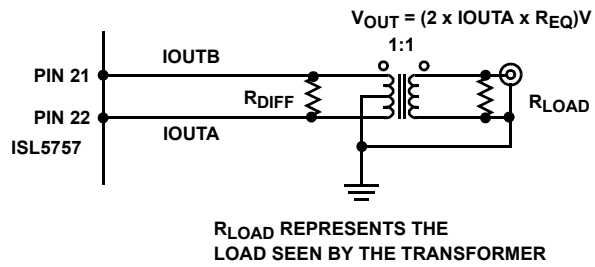
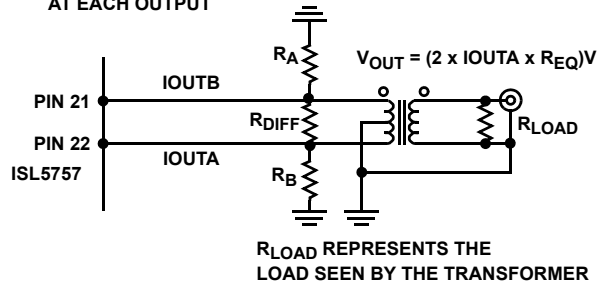

FIGURE 13. OUTPUT LOADING FOR DATASHEET MEASUREMENTS
FIGURE 14. ALTERNATIVE OUTPUT LOADING
# Typical Performance (+3.3V Supply, Using Figure 13 with $R_{DIFF} = 100\Omega$ and $R_{LOAD} = 50\Omega$ )
**Typical Performance** (+3.3V Supply, Using Figure 13 with  $R_{DIFF} = 100\Omega$  and  $R_{LOAD} = 50\Omega$ ) (Continued)
IOUTA and IOUTB can be used in a differential-to-single-ended arrangement to achieve better harmonic rejection. With RDIFF = 50Ω and RLOAD = 50Ω, the circuit in Figure 13 will provide a 500mV (-2.5dBm) signal at the output of the transformer if the full scale output current of the DAC is set to 20mA (used for the electrical specifications table). Values of RDIFF = 100Ω and RLOAD = 50Ω were used for the typical performance curves. The center tap in Figure 13 must be grounded.
In the circuit in Figure 14, the user is left with the option to ground or float the center tap. The DC voltage that will exist at either IOUTA or IOUTB if the center tap is floating is IOUTDC × (RA/RB) V because RDIFF is DC shorted by the transformer. If the center tap is grounded, the DC voltage is 0V. Recommended values for the circuit in Figure 14 are RA = RB = 50Ω, RDIFF = 100Ω, assuming RLOAD = 50Ω. The performance of Figure 13 and Figure 14 is basically the same, however leaving the center tap of Figure 14 floating allows the circuit to find a more balanced virtual ground, theoretically improving the even order harmonic rejection, but likely reducing the signal swing available due to the output voltage compliance range limitations.